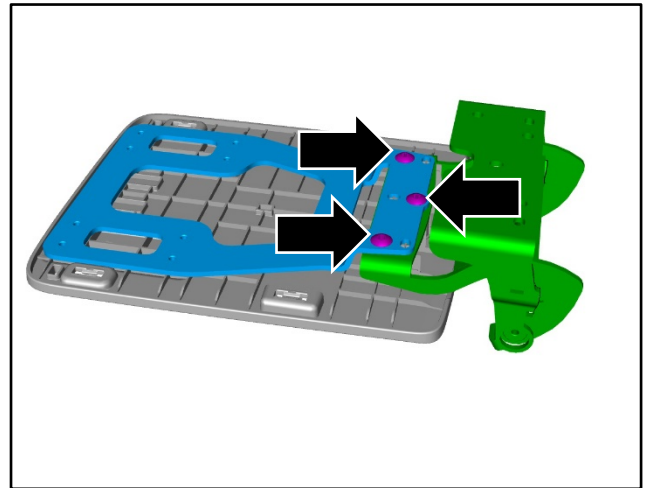

Figure 25
17. Install the bracket and hinge assembly. Install the three fixings (refer to Figure 25).